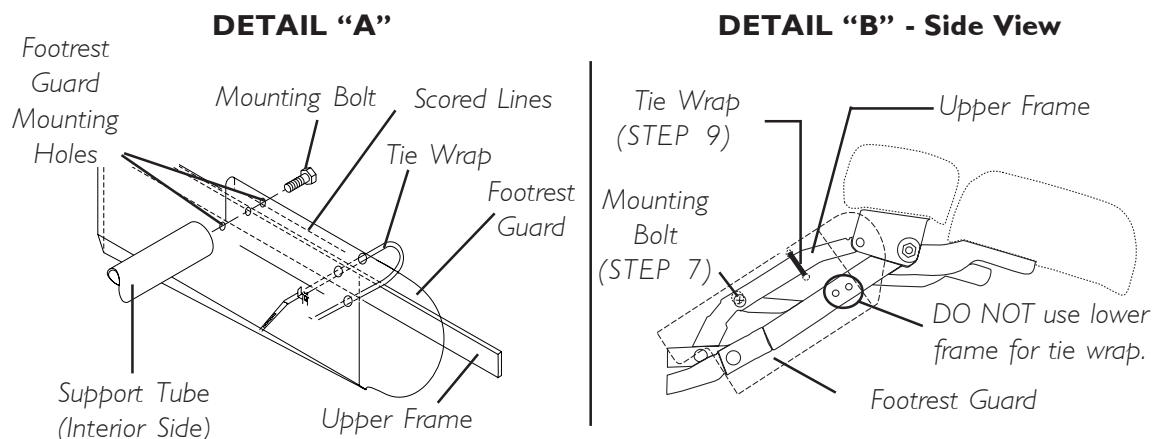

FIGURE 8 - REPLACING FOOTREST GUARD
REPLACING FOOTREST GUARD (FIGURE 8)
6. Install NEW footrest guard around the footrest frame as shown in DETAIL "A" of FIGURE 8.
7. Once folded, align the two (2) mounting holes of the footrest guard with the mounting hole in the upper footrest frame as shown in DETAIL "B" in FIGURE 8.
9. With a tie wrap, secure the footrest guard to the upper side frame as shown in DETAIL "B" in FIGURE 8.